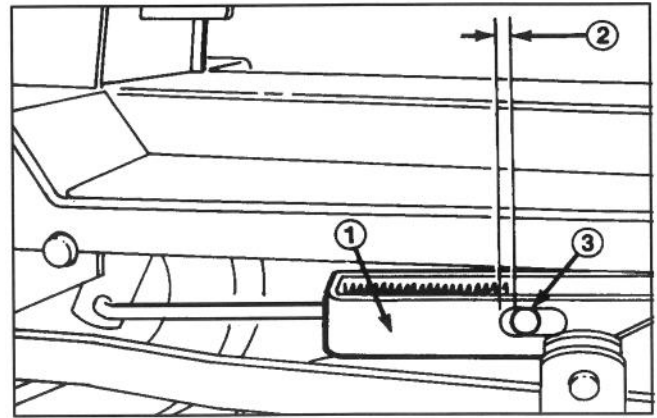

Figure 26
3. Rotate adjustment rod until there is 0.060 inch (1.5 mm) or less between end of slot in engagement bracket and outer diameter of pin (Fig. 26).